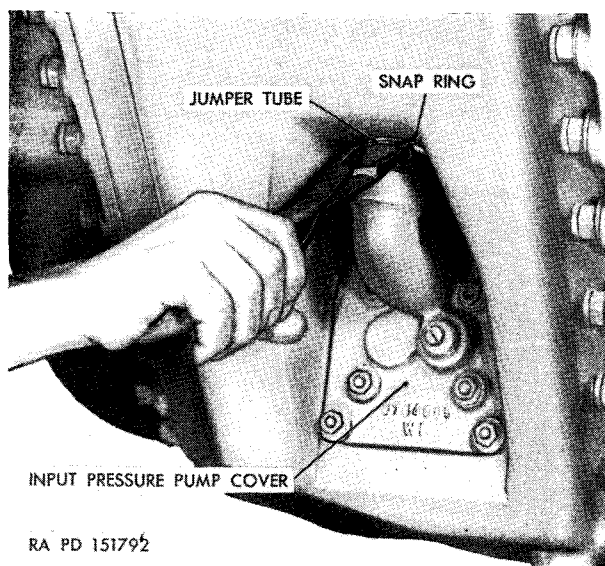

Figure 53. Removing input-pressure-pump snap ring.
- (3) *Input pressure pump.* Using external snap ring pliers, remove the snap ring from the jumper tube (fig. 53). Push